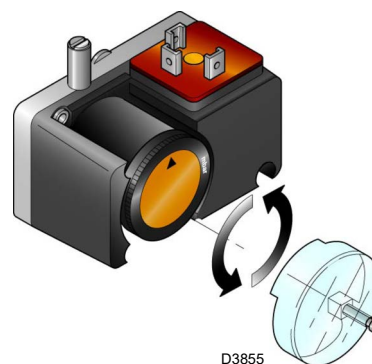

Fig. 31
- Adjust the minimum gas pressure switch (Fig. 31 at page 34) to the start of the scale.
Adjust the minimum gas pressure switch (Fig. 31) after having adjusted the burner, the gas valves and the gas train stabiliser.